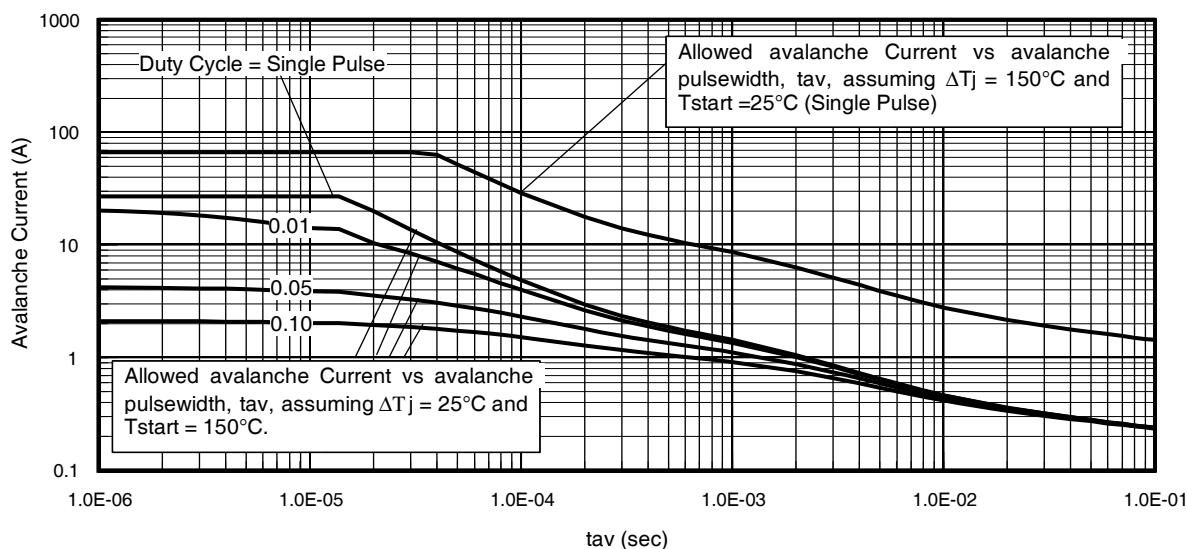

Fig 15. Typical Avalanche Current Vs. Pulsewidth
**Notes on Repetitive Avalanche Curves , Figures 15, 16:**
7.  $\Delta T$  = Allowable rise in junction temperature, not to exceed  $T_{jmax}$  (assumed as  $25^\circ\text{C}$  in Figure 15, 16).